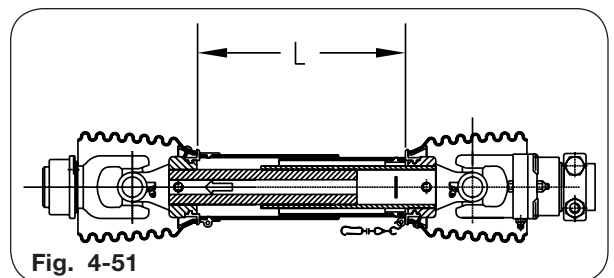

Fig. 4-51
1. Fully collapse PTO shaft and measure length “L” (Fig. 4-51).